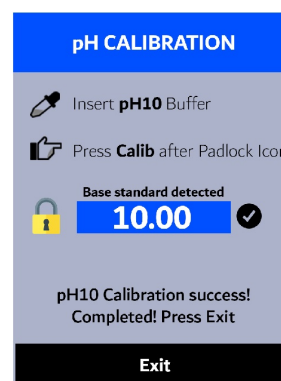

Figure 48.
23. If the calibration succeeds, a checkmark (✔), a "pH4 Calibration success!" or a "pH10 Calibration success!" message, and a "Completed!" message will appear (Figure 48). Otherwise, a warning message is displayed.